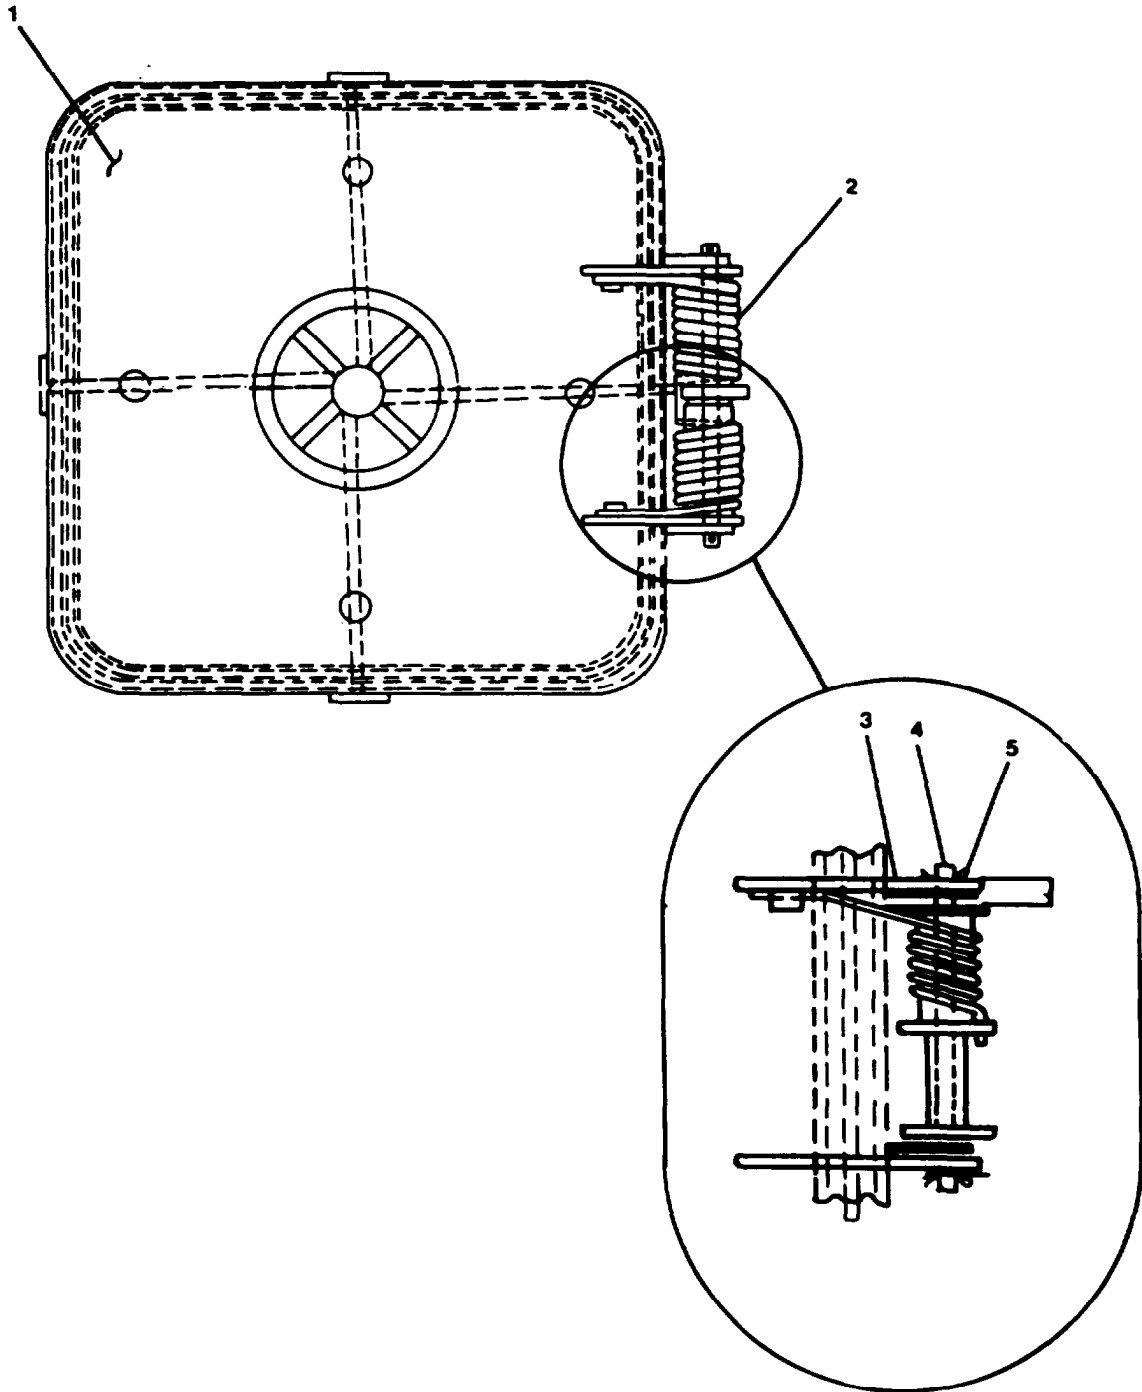

FIGURE 2-178. Replace Watertight HATCH, Quick Action.
- a. Open hatch (1, FIGURE 2-178).
- b. Remove cotter pins (5) from cylindrical pin (4).
- c. Remove cylindrical pin (4) and flat washers (3) from hinge (2).
- d. Remove hatch (1) from closure.
- j. Install cylindrical pins (17) in dog arms (24).
- k. Secure cylindrical pins using cotter pins (16).
- l. Install cover (18) on hatch.
- m. Place preformed packing (11) and delrin bushings (15) on handwheel and shaft (19).
- n. Install handwheel and shaft (19) on hatch.
- o. Install handwheel (14) and secure using hexagon nuts (13).
- p. Install pipe sleeve (5) on hinge blade.
- q. Install toggle (7) and sprocket (6) on hinge blade.
- r. Install stop (3) on hatch (1), then install helical compression spring (4) on hinge blade.
- a. Place hatch (1, FIGURE 2-178) in position on frame.
- b. Install flat washers (3) and align holes.